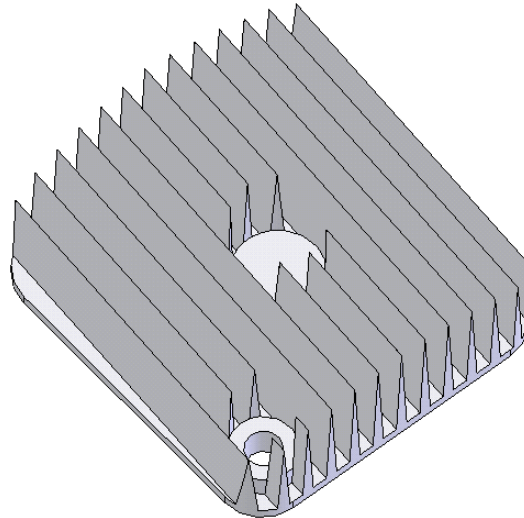

Figure 7-92 Model after adding other extrude and cut features
- g. Create other cut and extrude features to complete the creation of the model, refer to Figure 7-92.
5. Using the cut and extrude options, shape the model as shown in Figure 7-92.